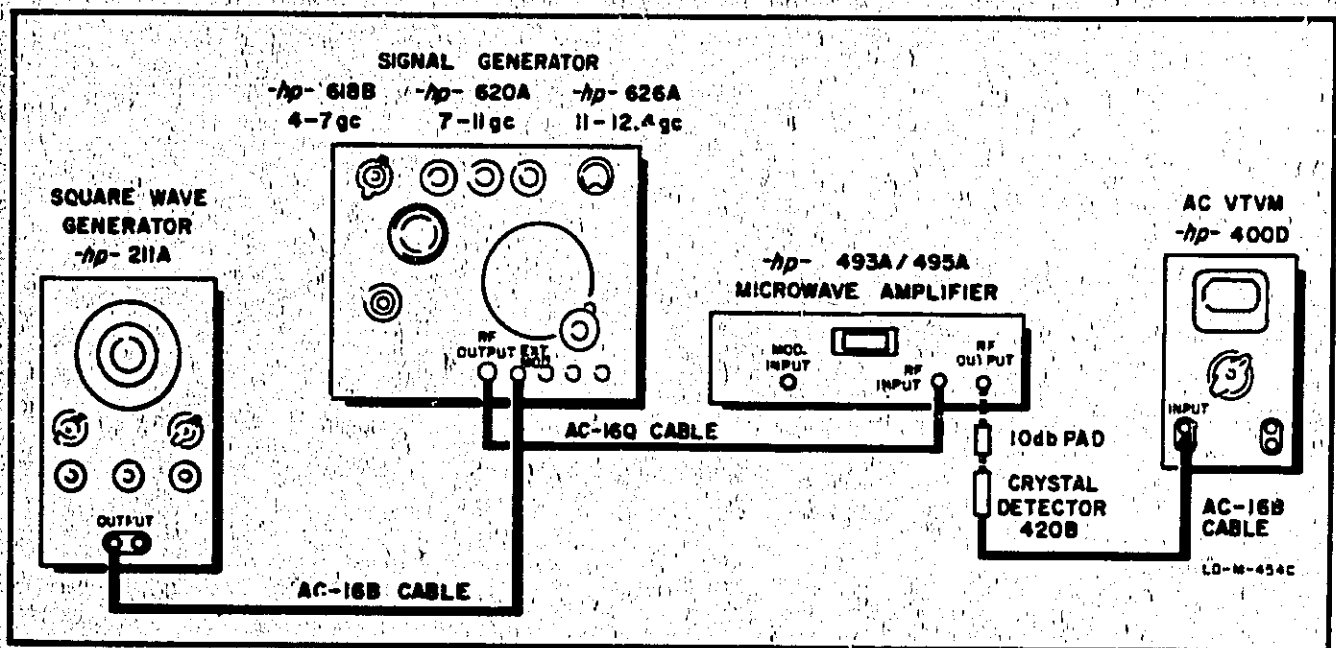

Figure 5-9. Residual AM Check
- Connect the Model 493A as shown in figure 5-9.